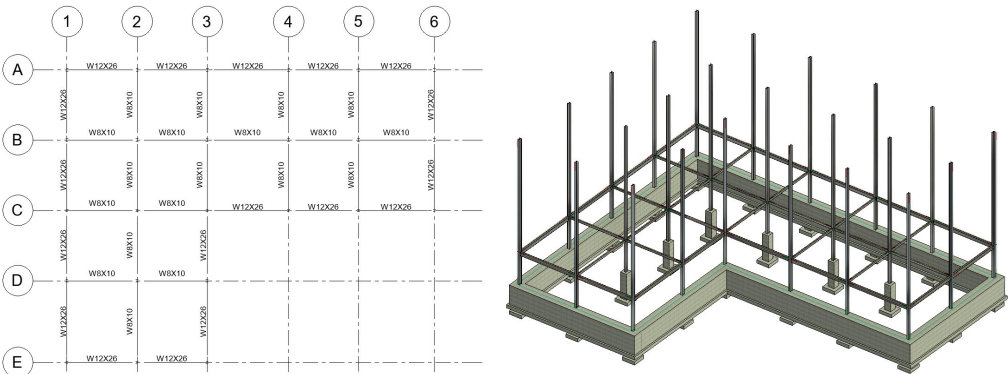

Figure 16.11 Interior Beam System placed on interior grid shown in Plan View (left) and in 3D view (right)
9. Now add beams in across the interior of the building as shown in Figure 16.11